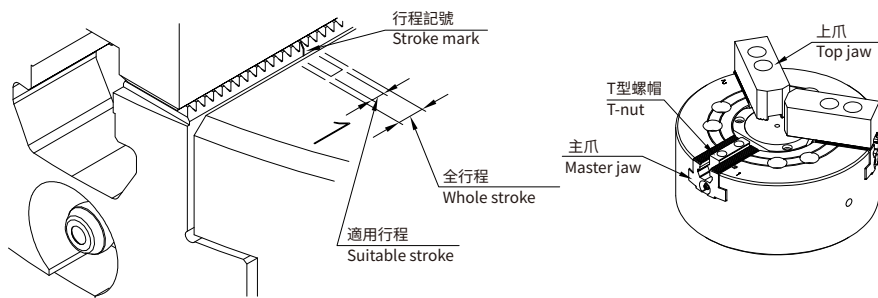

Fig.16
- 工作物必須夾持於行程的中點位置，或在中點以內，這樣將可達成最好的精度及穩定度，儘量防止用行程的盡端來夾持工作物。（Fig.16）
- It is the most desirable that the workpiece is gripped at mid stroke of the master jaws. To grip the workpiece correctly, avoid gripping at stroke end. (Fig.16)